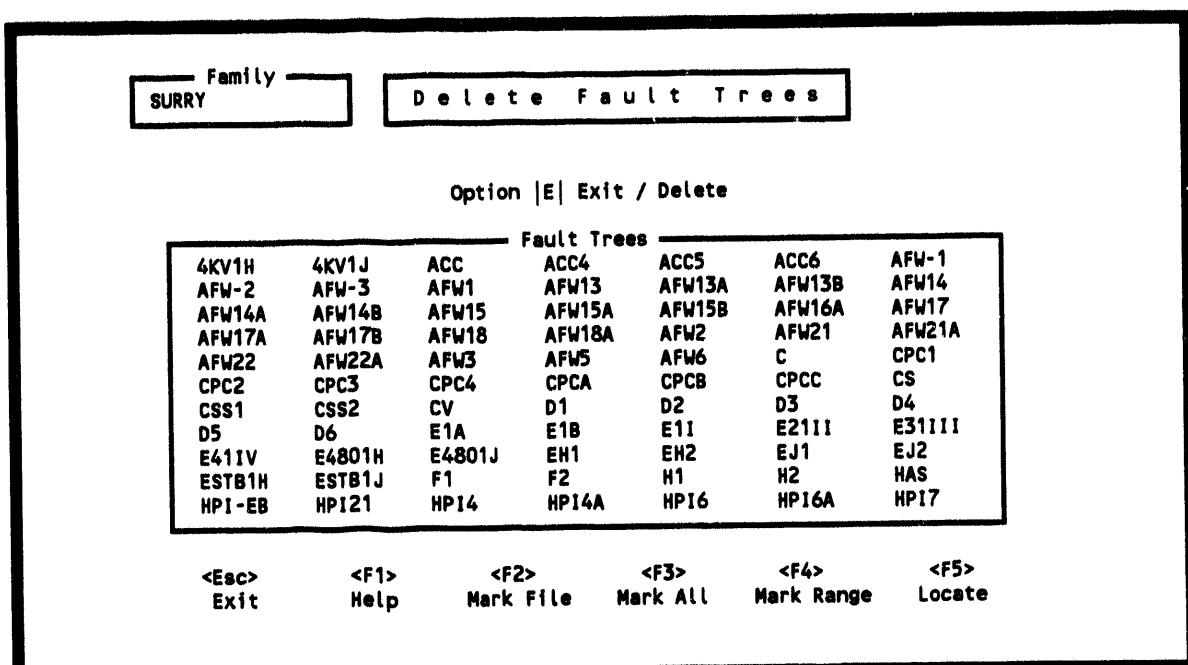

Figure 49. Select fault trees to delete.
7.3.2.3 Delete Extracted Trees. This option allows you to delete extracted fault trees from the current family directory. To invoke this option, enter a <D> in the option field and press <Enter>. Figure 49 will be displayed. This screen lists all the fault trees in the directory for the current family. To delete a fault tree, enter a <D> in the option field, highlight the fault tree to be deleted or mark the trees to be deleted (using the function keys), and press <Enter>.